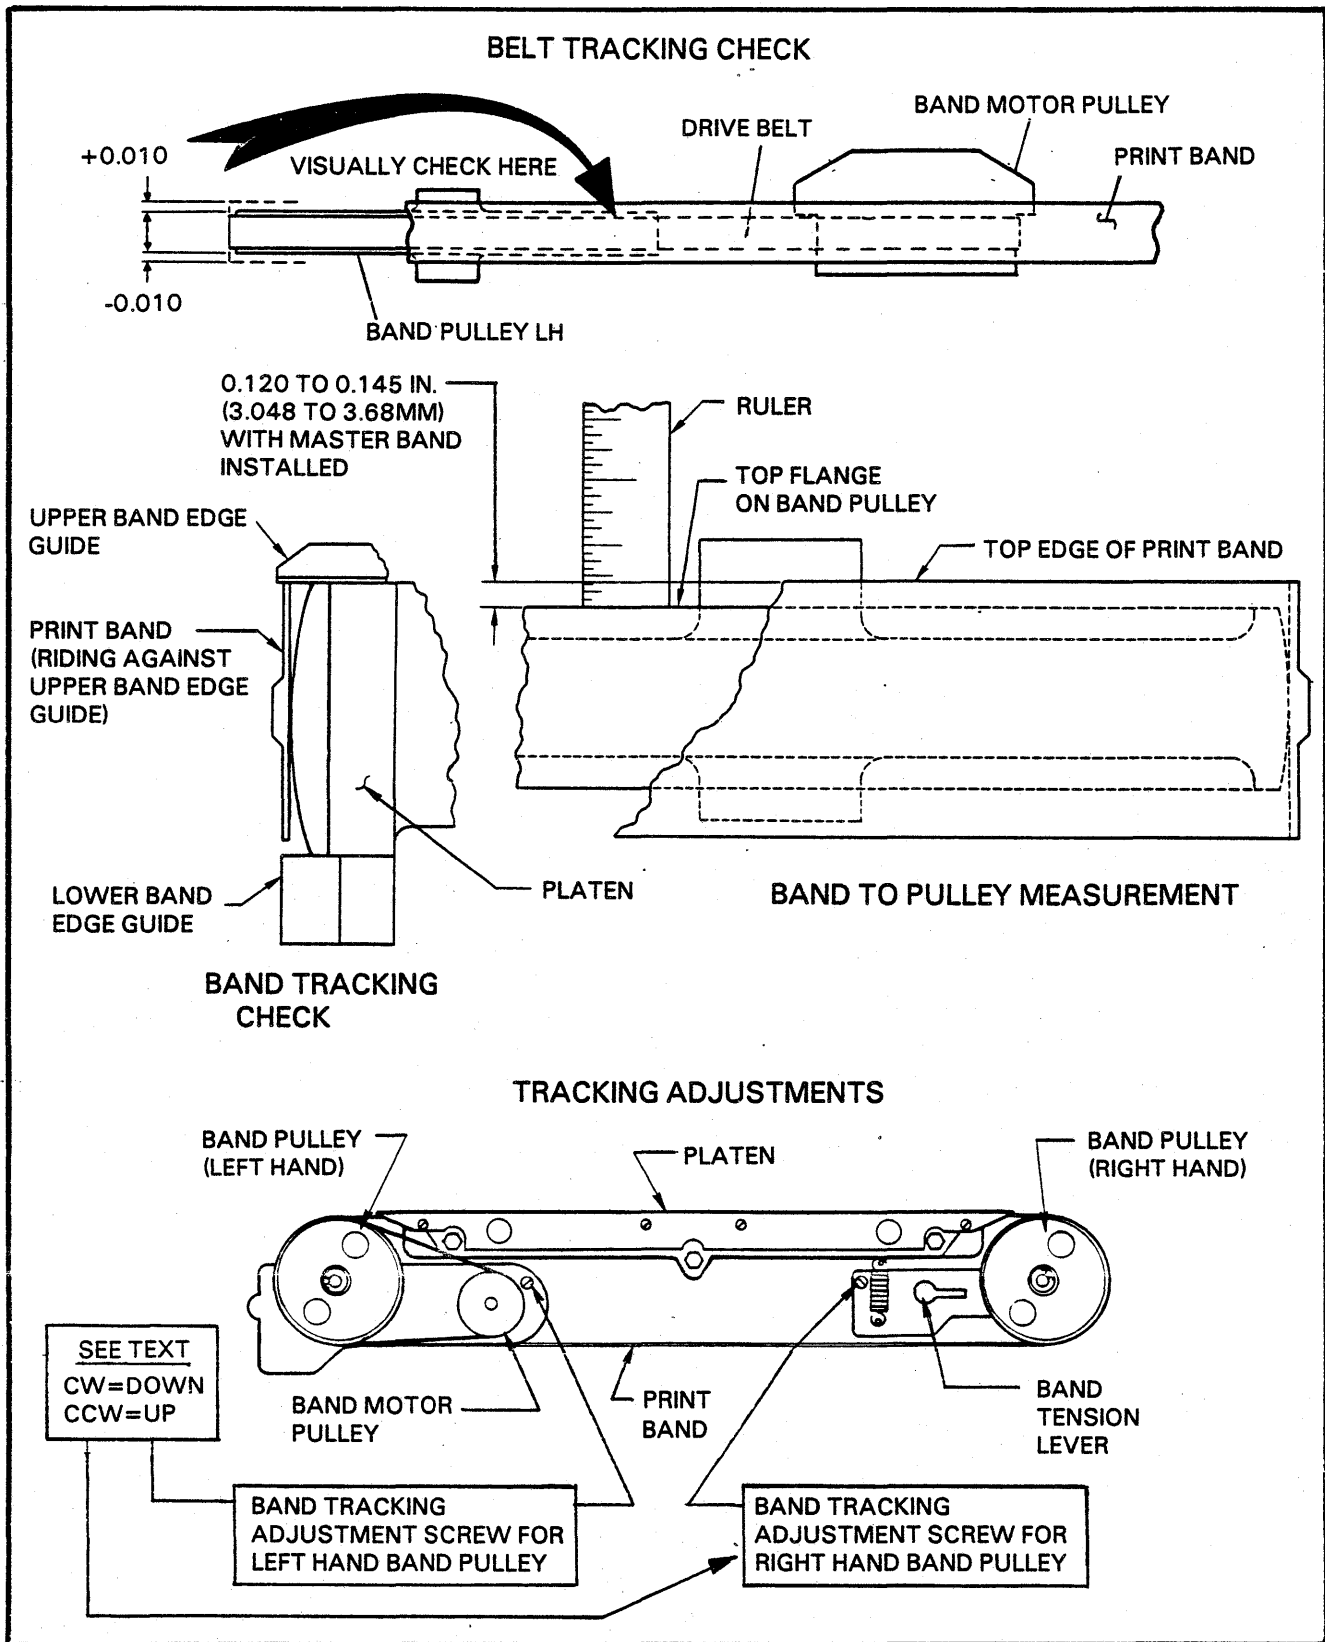

FIGURE 5-23. BAND PULLEY AND TRACKING ADJUSTMENT
Refer to the side view of the platen shown in Figure 5-23, Tracking Check. If contact at both ends of the upper band edge guide cannot be obtained by rotating the band, install another band. If more than 0.007 in. (0.173mm) is found between the top of the band and the upper band edge guide, install another band. If all bands exhibit the above problems then band tracking is misadjusted or the upper band edge guide may require replacement.
2. Run the band for 30 seconds as in the Tracking Check using the gate switch. If band tracking is so bad the band jumps off, perform the following procedures before adjusting tracking; 5AO, 5AP and 5AQ. Also check to see that the pulley can float up and down without binding on its shaft, if it binds replace the pulley. If after performing the procedures the band still jumps off, use the band tracking adjustment screws shown in Figure 5-23 to lower the band if its jumping off the top of the pulleys. If the band is riding too low, raise the band tracking. Turning the screws CW will cause the band to ride down lower, and CCW will raise the band.
3. If the band can be tracked against the upper band edge guide, which may require the adjustment of the band tracking adjustment screws as described in the previous step, then check the belt tracking. If band tracking cannot be obtained continue through step 4 and then repeat steps 2 thru 4. The belt tracking is correct when centered on the band pulley, however, tracking is acceptable if the belt racks up to 0.010 inches above or below the pulley edge as shown at the top of Figure 5-23. This check can be made without removing the band by checking between the band pulley and the motor flywheel, where the band and belt separate on the pulley.
2. Gently place a ruler on the top flange of the band pulley, behind the band, and in an area where the band is in contact with the pulley surface. Refer to Figure 5-23. Note the distance from the top flange edge on the band pulley to the top edge of the band. Record the measurement as one of the numbers for calculating the mean dimension. Perform the same measurement on the other pulley labeling the reading left and right pulley.
5. The readings in the example show the tracking of the band is too low on the pulley. Use the band tracking adjusting screws shown in Figure 5-23 to adjust the mean reading within the band tracking range. Turning the adjustment screw clockwise will cause the band to ride down on the band pulley. Turning the adjustment screw counter clockwise will cause the band to ride up on the band pulley.